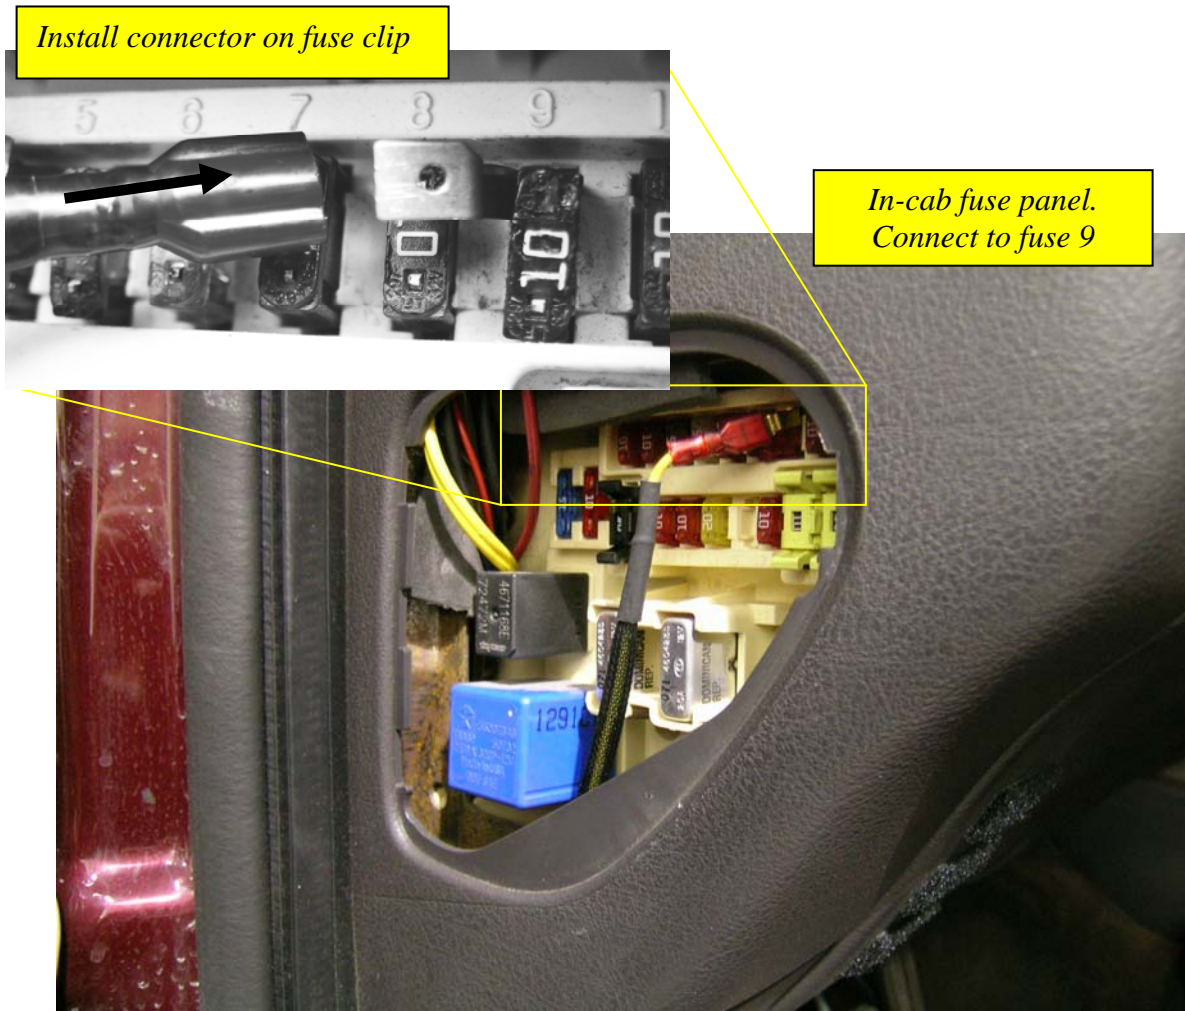

Figure 7 – Connection of the turbo-timer keep alive tap inside cab fuse box
1. The Turbo-Timer cable routes from the engine compartment to inside the cab - Cut a 1/2" slit in the firewall grommet. Automatics- easy access is the clutch hole grommet located to the left of the firewall brake hole. Manuals or Automatics- Use the large vehicle wiring harness grommet on the firewall. Fish the supplied cable through the slit from the engine compartment into the cab. Route the supplied yellow wire up into the fuse panel fuse #9 (Engine) on the driver side of the dash board. (You must open the door to access this panel.) - See Figure 7